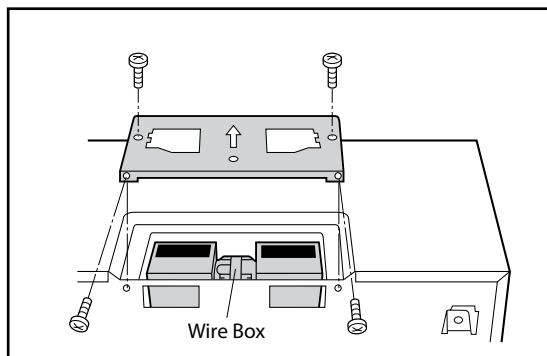

Figure 15
5. Attach the Fan Cover Bracket to unit with the 4 screws removed in step 1 above. See Figure 15. The Hood Fan Unit is now rotated for vertical exhaust operation.